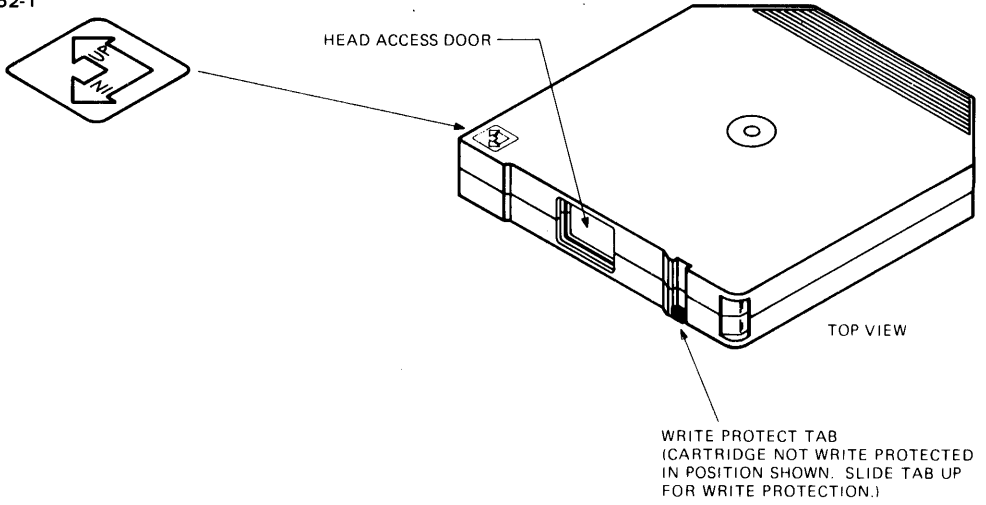

Figure 4-11 CDD50 Removable Disk (Top View)
The CDD50 removable cartridge disk is shown in Figures 4-11 and 4-12. These figures show the head access door, the armature plate and the location of the write protect tab.
2. Slide the cartridge into the receiver track, ensuring that the head opening is toward the rear of the drive and the top surface (marked TOP) of the cartridge is up. See Figure 4-11.